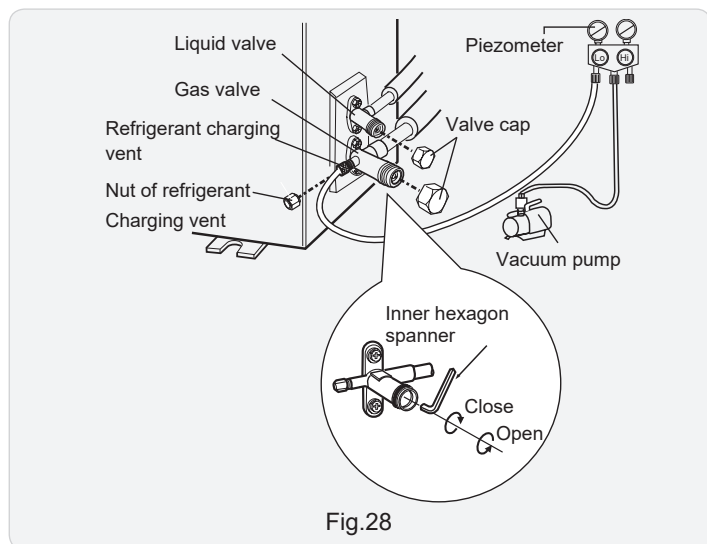

Fig.28
- (1) Remove the valve caps on the liquid valve and gas valve and the nut of refrigerant charging vent.
(2) Connect the charging hose of piezometer to the refrigerant charging vent of gas valve and then connect the other charging hose to the vacuum pump.
(3) Open the piezometer completely and operate for 10-15min to check if the pressure of piezometer remains in -0.1MPa.
(4) Close the vacuum pump and maintain this status for 1-2min to check if the pressure of piezometer remains in -0.1MPa. If the pressure decreases, there may be leakage.
(5) Remove the piezometer, open the valve core of liquid valve and gas valve completely with inner hexagon spanner.
(6) Tighten the screw caps of valves and refrigerant charging vent. (As show in Fig.28)